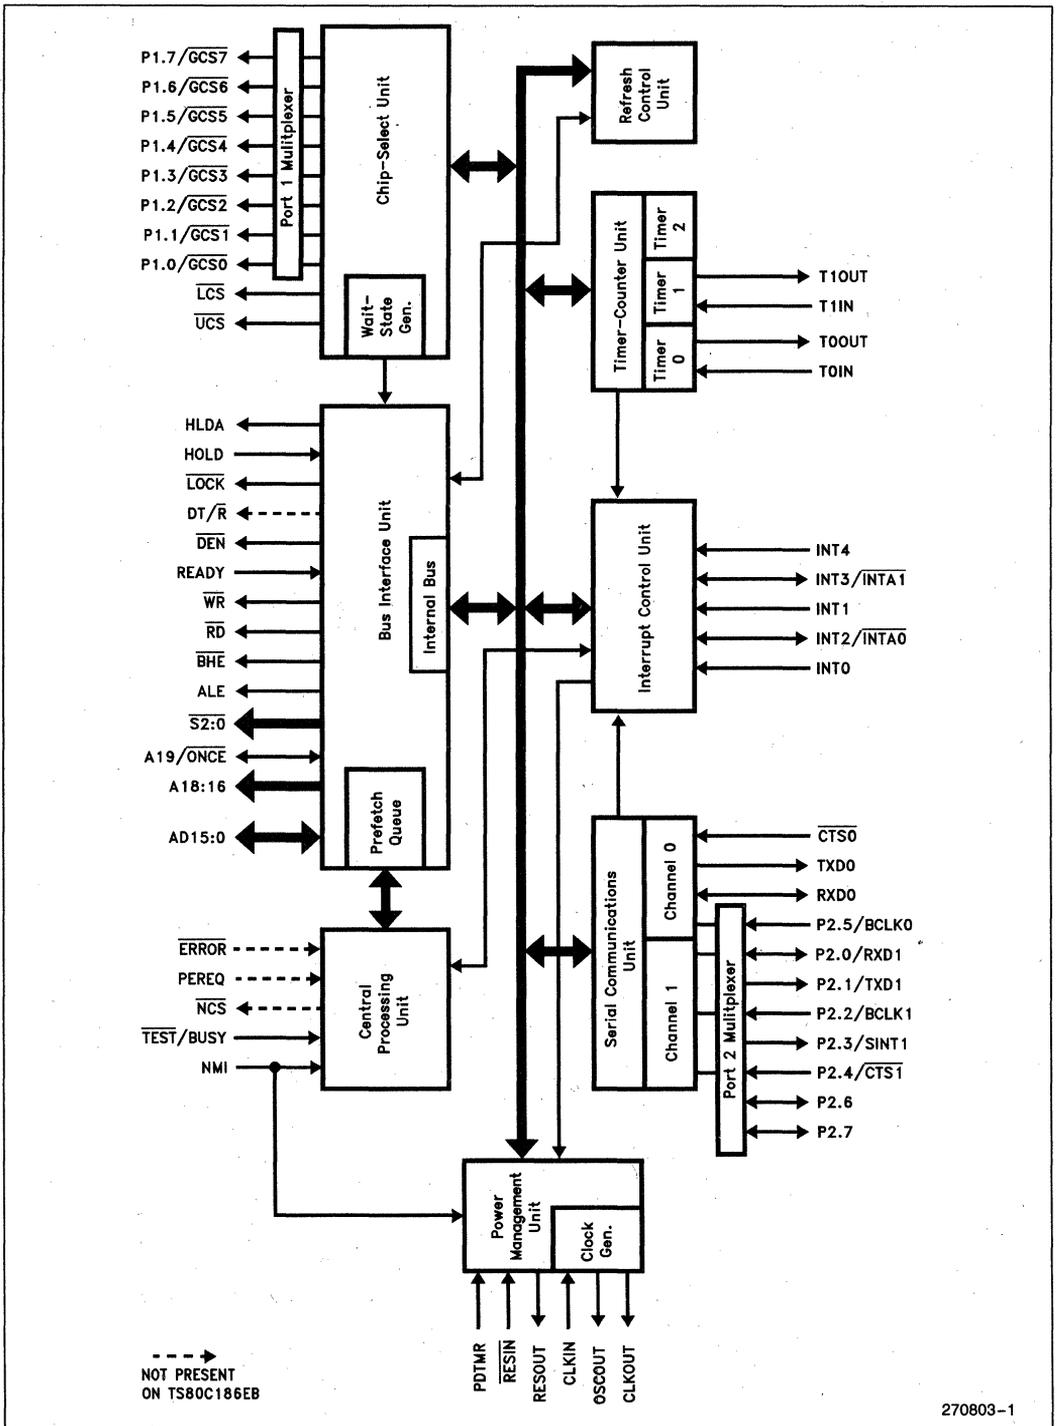

Figure 1. 80C186EB Block Diagram
Figure 1 shows a block diagram of the 80C186EB. The Execution Unit (EU) is an enhanced 8086 CPU core that includes: dedicated hardware to speed up effective address calculations, enhance execution speed for multiple-bit shift and rotate instructions and for multiply and divide instructions, string move instructions that operate at full bus bandwidth, ten new instructions, and full static operation. The Bus Interface Unit (BIU) is the same as that found on the original 186 family products, except the queue-status mode has been deleted and buffer interface control has been changed to ease system design timings. An independent internal bus is used to allow communication between the BIU and internal peripherals.